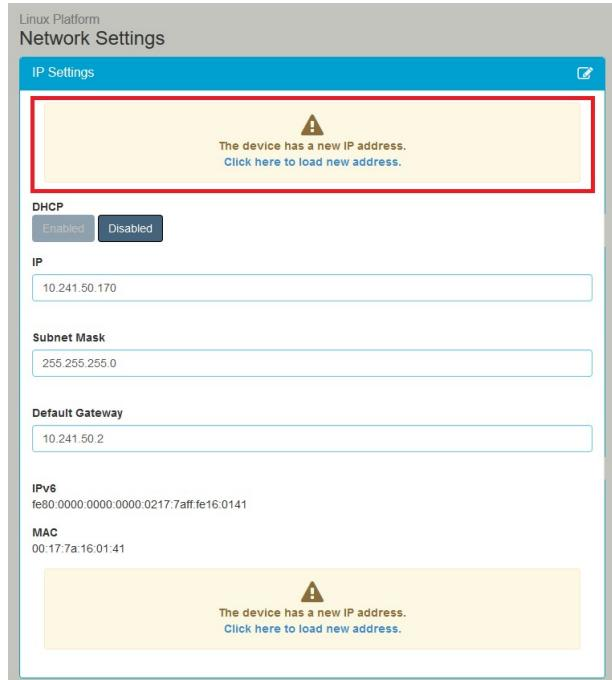

Figure 30
6. A message 'The device has a new IP address' as in Figure 30 will be shown.